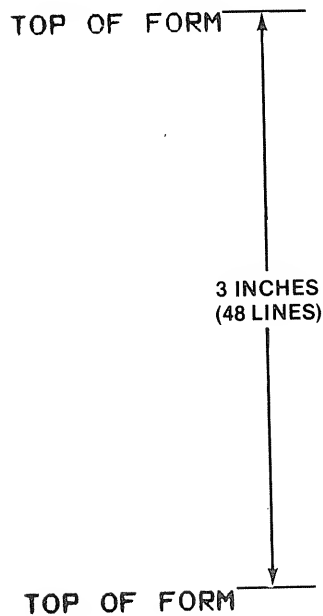

Figure 7-10. Top of Form Example
From that point on, you could use a CHR\$(12) to do a top-of-form—it would be intercepted by BASIC, but BASIC would use the 18 value as the lines per page. The line count variable holds the number of the current line. An example for printing the "TOP OF 3-INCH FORM" message is shown in Figure 7-10.